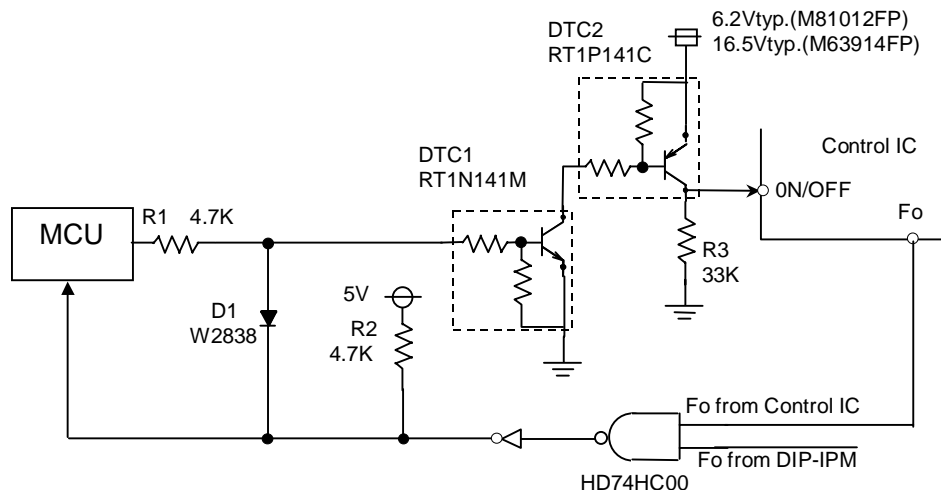

Fig. 24 ON/OFF circuit
The start-up and stop operation of DIP-PFC is controlled by the ON/OFF command usually from a MCU. The ON/OFF control is high active. Fig. 24 shows an interface circuit. It consists of two transistors for level shift. Also, a hard interruption circuit is realized synchronously to the Fo signal coming from DIP-IPM. It is necessary to consider the parameter dispersion of the total resistors in designing the circuit.
Please ensure that IFO(L) will not exceed 10mA. The operation of DIP-PFC will be interrupted by the circuit shown in Fig.24, however, to make the system fail-safe against noise, please also stop the PWM output of the microprocessor. In DIP-PFC/DIP-IPM system, although DIP-IPM can work with only a pure diode rectifier bridge, it is better to stop the total system by software in case there is Fo output either from DIP-PFC or DIP-IPM. In addition, a noise filter is recommended in the circuit. The time constant should be determined according to actual application condition.